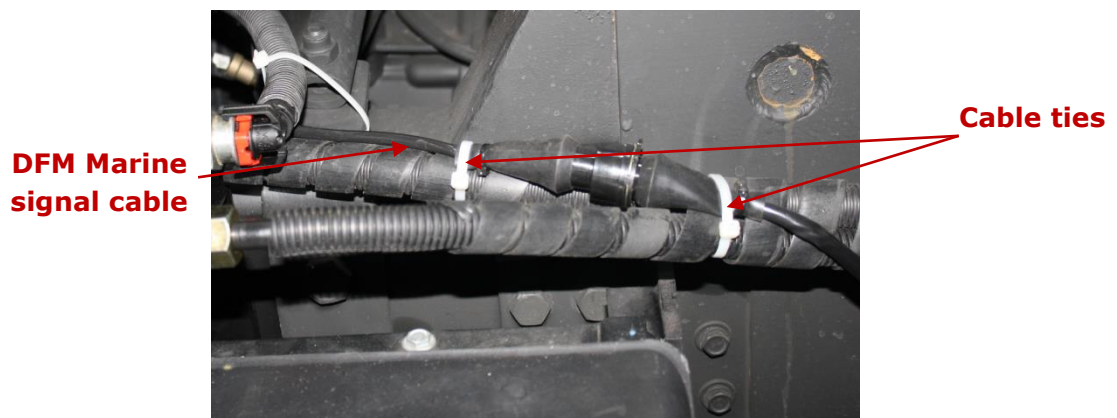

Figure 25 — Laying DFM Marine signal cable
- 5) It is **strongly recommended** to lay DFM Marine connection cable together with standard electrical vehicle wiring with mandatory cable ties fixing of every 50 cm, at a positive ambient temperature (see figure 25).